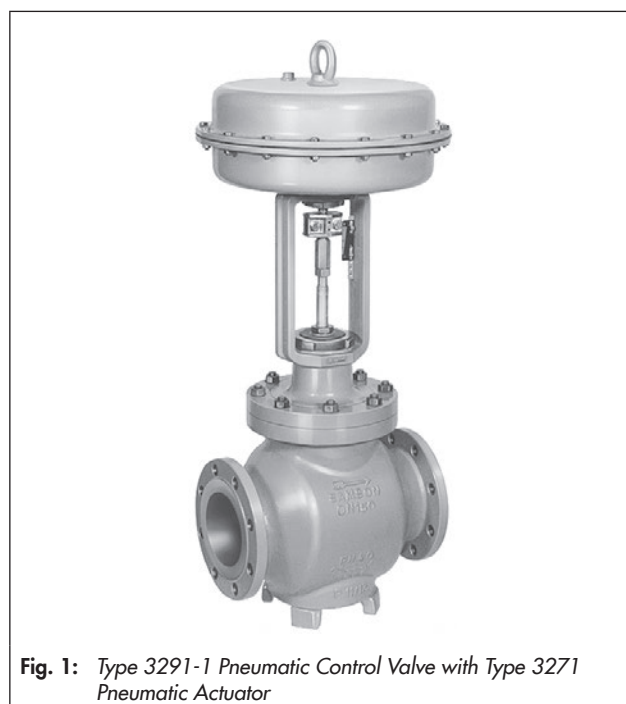

Fig. 1: Type 3291-1 Pneumatic Control Valve with Type 3271 Pneumatic Actuator
Standard version (Fig. 1) · Globe valve for temperatures from 15 to 430 °F (–10 to +220 °C) · NPS ½ to 8
- **Type 3291-1** (Fig. 1) · Type 3291 Valve and Type 3271 Pneumatic Actuator (see Data Sheets ► T 8310-1 and ► T 8310-2)